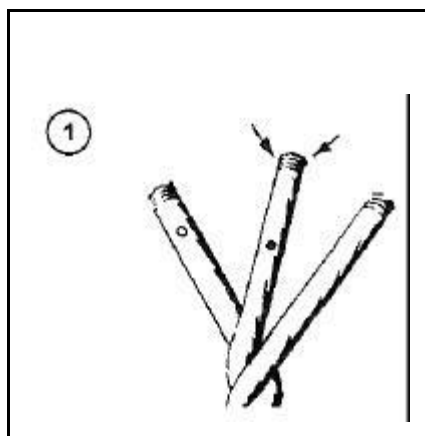

Figure 12-29. Selecting the Middle Strand
- **Step 1.** Figure 12-29 shows how to make the first two tucks. Separate the strands in the end and hold them up as shown. Place the three unlaid strands against the standing part where they will be tucked, forming an eye the size you need. Always tuck the middle strand facing you first. Put a reverse twist on the standing part so that you can raise the strand under which you will make the first tuck. Pick up the strand that you will tuck, and tuck it under the strand raised. Always tuck from right to left or with the lay of the line.